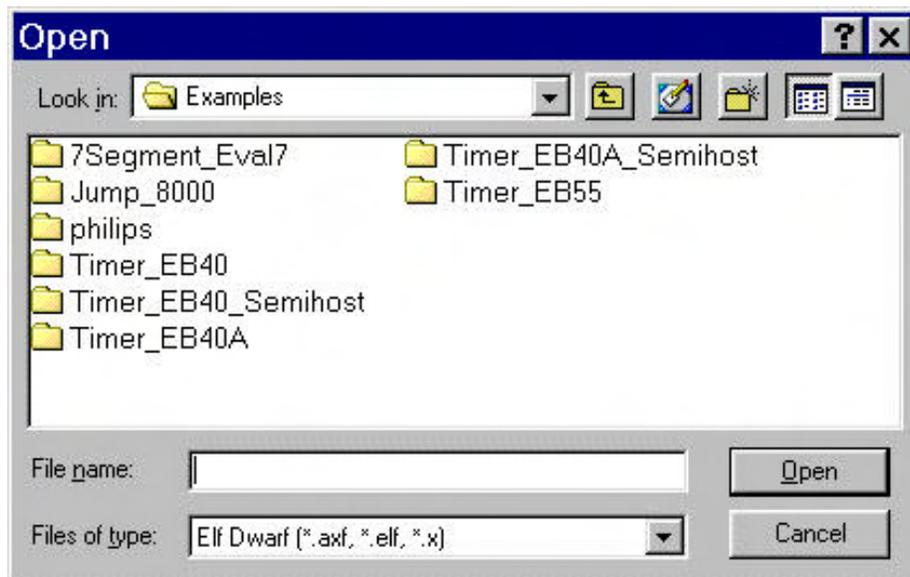

Figure 12: Open Dialog Box Displaying the Program Example Directories
2. From the **File** menu select **Load Code**. The **Open** dialog box opens (Figure 12).